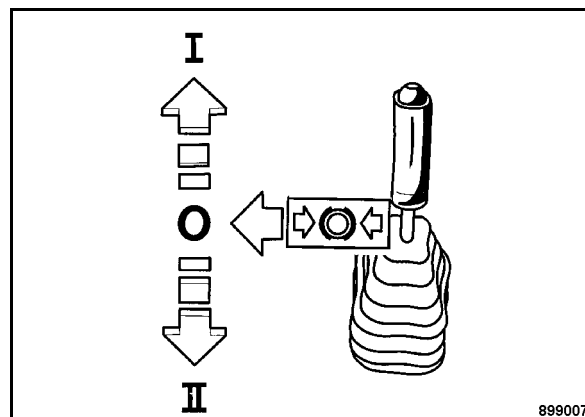

Fig. 40
- Move the travel lever (Fig. 40) slowly to the desired travel direction.